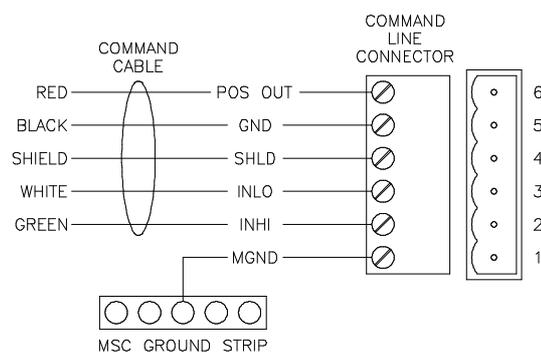

Figure 4.4
5. Using a short jumper wire, temporarily short together the INLO (white wire) and INHI (green wire) terminals on the command line connector (refer to **Figure 4.4**). This step causes the drive (amplifier) to turn "On" manually.